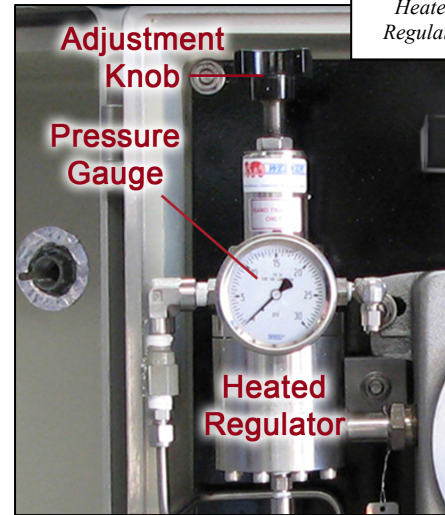

Figure 7 –
4. Tighten the adjustment knob on the Heated Regulator until the gauge reads the desired output pressure (see Figure 7).